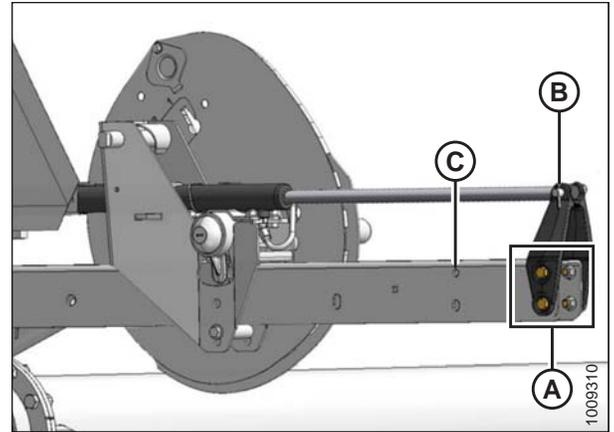

Figure 3.74: Forward Position
1. Remove four bolts (A) securing cylinder bracket (B) to the reel arm.
2. Position reel until bracket (B) lines up with desired position holes (C):
- Forward position, refer to Figure 3.74, page 85